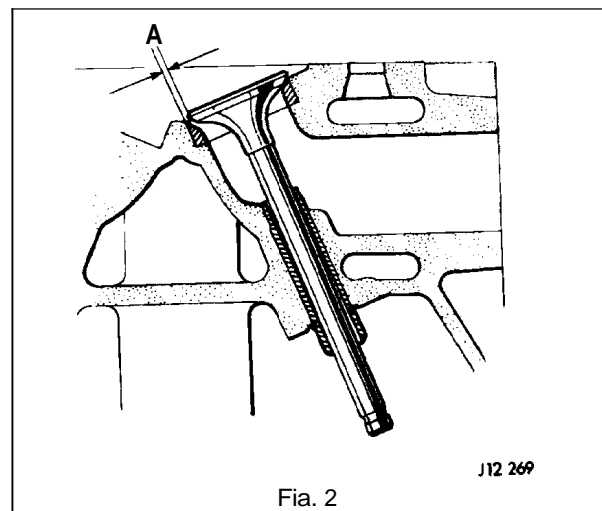

Fig. 2
- To test against a new valve spring, insert both valve springs end to end between the test equipment. Apply a load to partly compress the springs and measure their comparative lengths (Fig. 2).